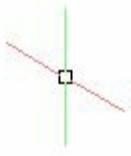

Figure-58. Cursor orientation
- Click on the **Isometric Drafting** button  from the Bottom bar. The orientation of the cursor will change as per the current isometric plane selected; refer to Figure-58.